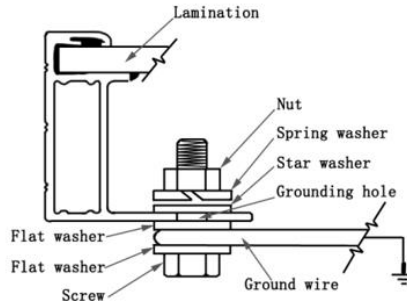

Figure 5 Bolt grounding mode
- Fasten bolts of grounding wires (recommended torque value 3-7N.m) and then installation is completed, as shown in Figure 5.